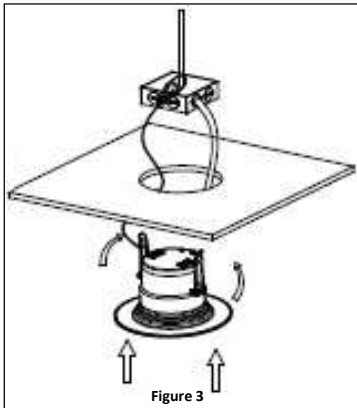

Figure 3
5. Push up and hold the spring clips against the fixture. Gently guide into the ceiling until the clips are in the hole. Tuck excess wire into the ceiling and be sure not to pinch or crimp the wire. **See Figure 3.**